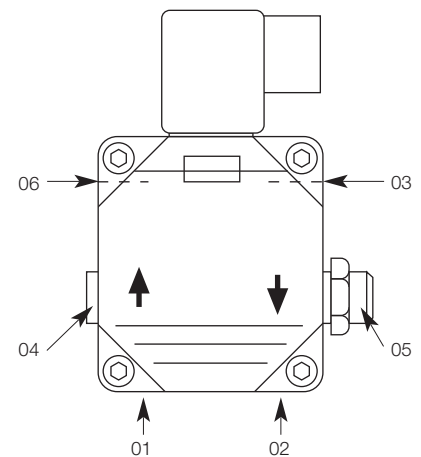

Figure 3-7: Danfoss BFP11 R3 oil pump
1. Remove and discard the blanking plugs from the suction (inlet) and return connections of the pump. Refer to figure 3-7.